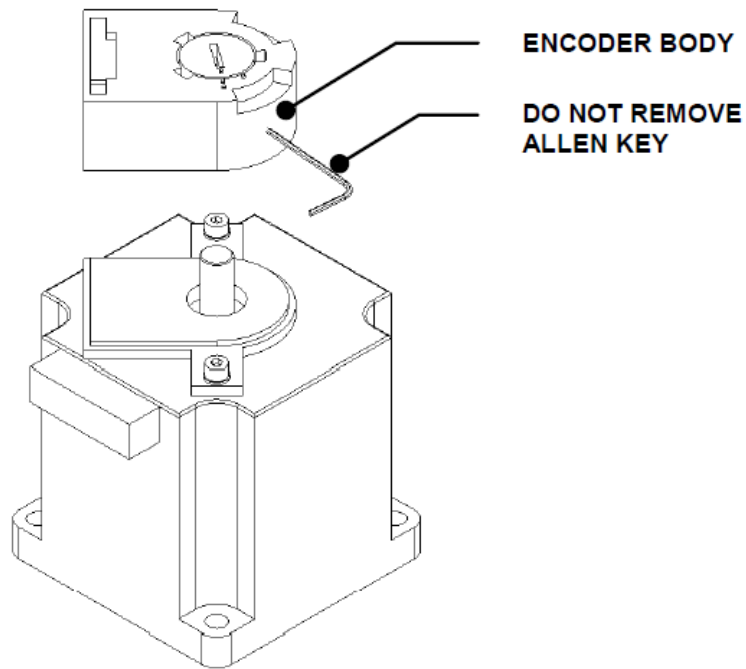

Figure Y-3: Installing the Encoder
3. Install the encoder onto the Mounting Plate by snapping it in place. Do not remove the Allen key in the encoder (Figure Y-3).